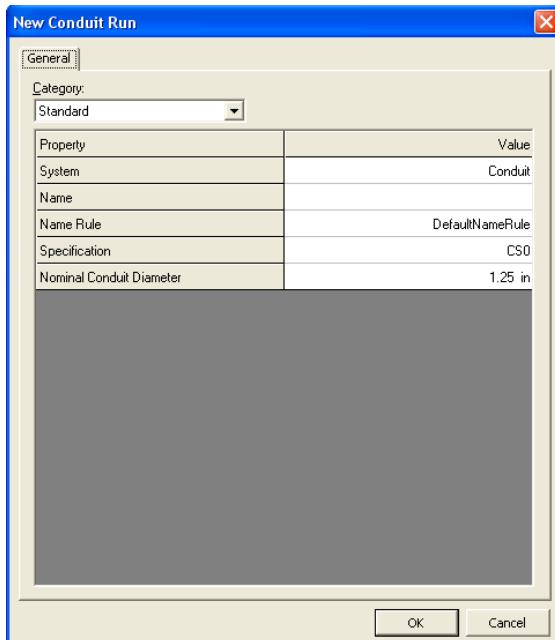

Figure 19: New Conduit Run Dialog Box
62. The New Conduit Run dialog box appears on the screen. Click OK to accept the default values of the new conduit run, as shown in Figure 19.